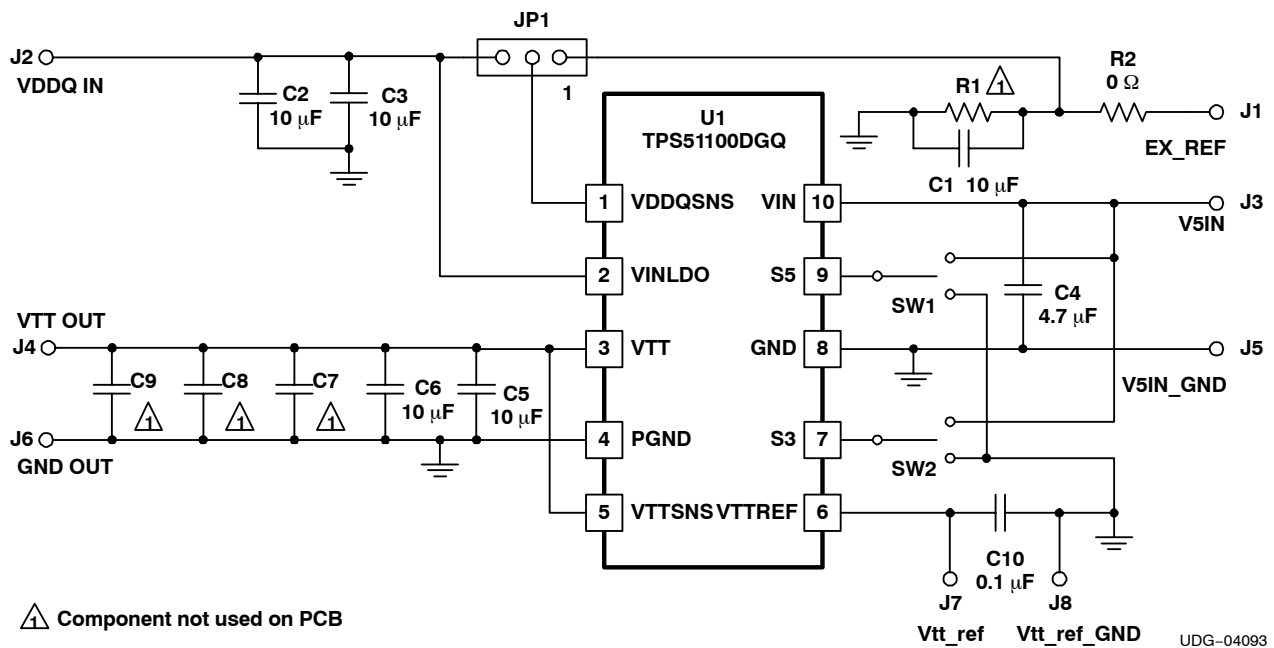

Figure 1. TPS51100EVM Schematic
The TPS51100EVM schematic is shown in Figure 1.
2. Connect power supplies, loads, voltage meters and current meters as shown in Figure 1.